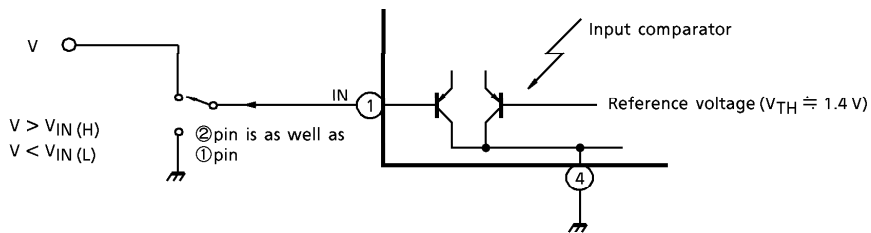

Fig.1
(1) Input circuit
Input circuit is shown in Fig.1. It's a "Low active" type voltage comparator that's one input connect to Input terminal (pin ①, or ②) and the other to built-in temperature compensated voltage reference ( $V_{TH} = 1.4V$  Typ.)